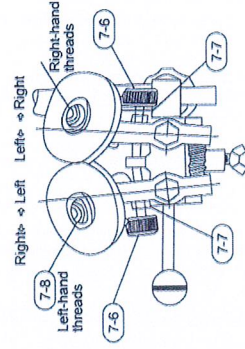
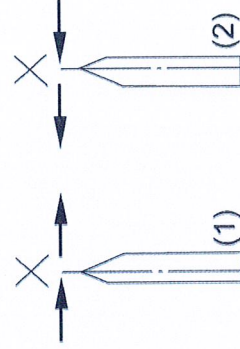

Fig. 10
Fig. 9
4. If the blade is ground unevenly as shown in Fig.9, then adjust the two grinding wheels left or right by turning the two knurled screws (7-6) shown in Fig.10. The arrows in Fig.9 indicate the moving direction of the grinding wheels.
5. Generally, the angle between two blades should be small for thin materials, and the angle should be big for heavy materials. Refer to Fig. 10 for details, and the small arrow indicates the moving direction of two grinding wheels.
7. If the knife is not ground though the grinding wheels has been adjusted correctly. The grinding wheels are worn out and should be replaced. Loosen nuts shown in Fig. 10 to replace.